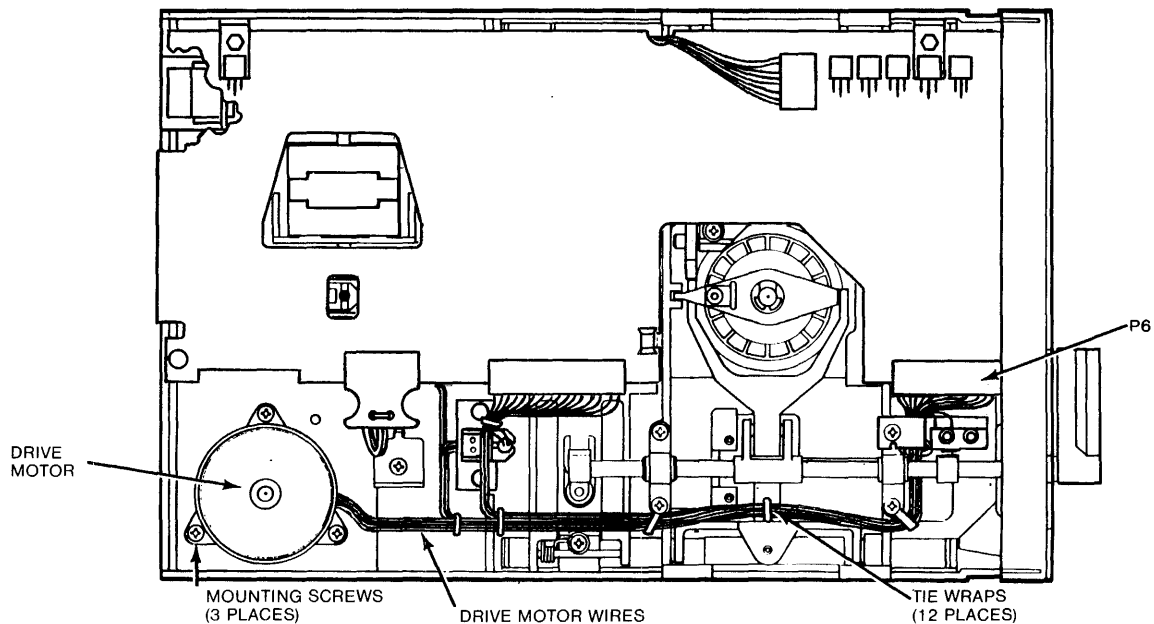

Figure 5-2
B. After turning the drive over, cut the tie wraps that hold the drive motor's wires (see Figure 5-2).
- C. Carefully rebundle the wires, including the drive motor wire, and cable harness them (see Figure 5-2).